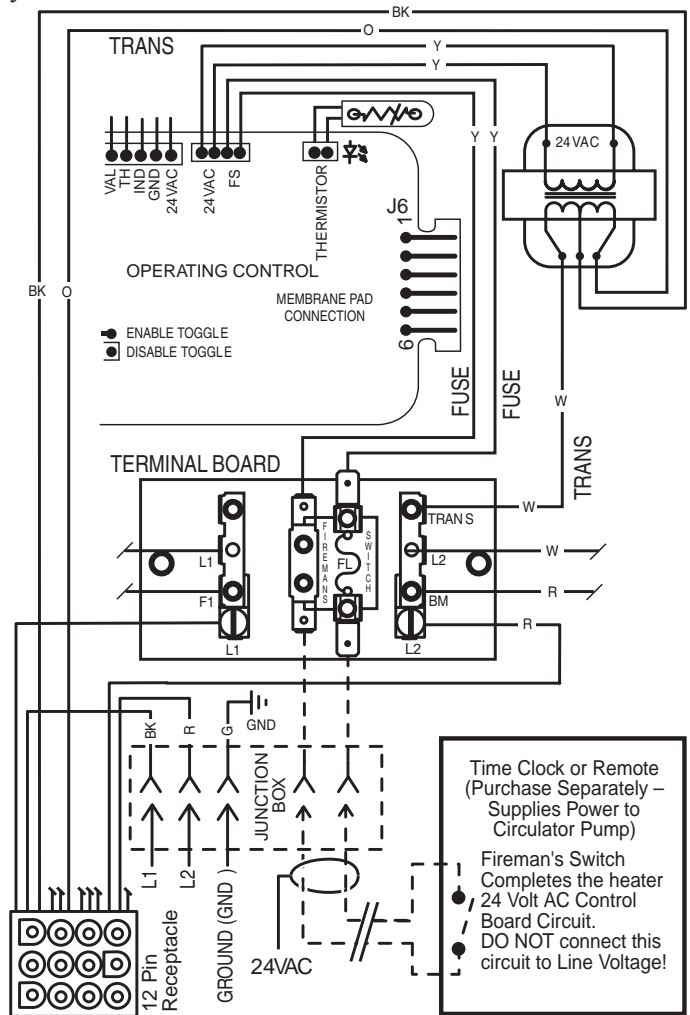

Figure 34.
- Connect wires between the Fireman's Switch terminals on the heater and the relay. Connect wires from the controller or timer to the Fireman's Switch. Controller, timer or relay should be sized to handle 24VAC at 0.5 Amp (because it will be completing the 24VAC control board circuit on the heater as shown in Figure 34). **DO NOT** apply line voltage to the Fireman's Switch terminals. Use 18 gauge wire with a minimum 1.2 mm (3/64 in.) thick insulation rated for a temperature rise of at least 105° C.
- Move jumper (as show in Figure 34) to enable external control and to disable the heater membrane pad's "Pool ON" and "Spa ON" buttons (the "OFF" key on the membrane pad remains functional).